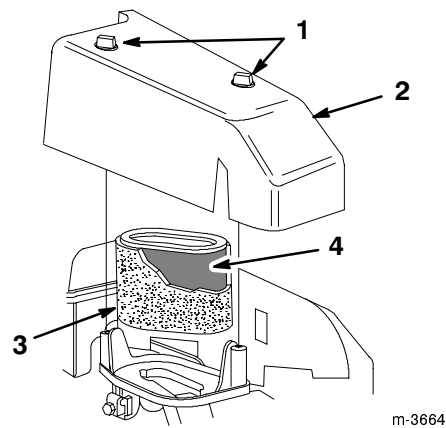

Figure 19
2. Loosen the two knobs that secure the air cleaner cover to the engine (Fig. 19).